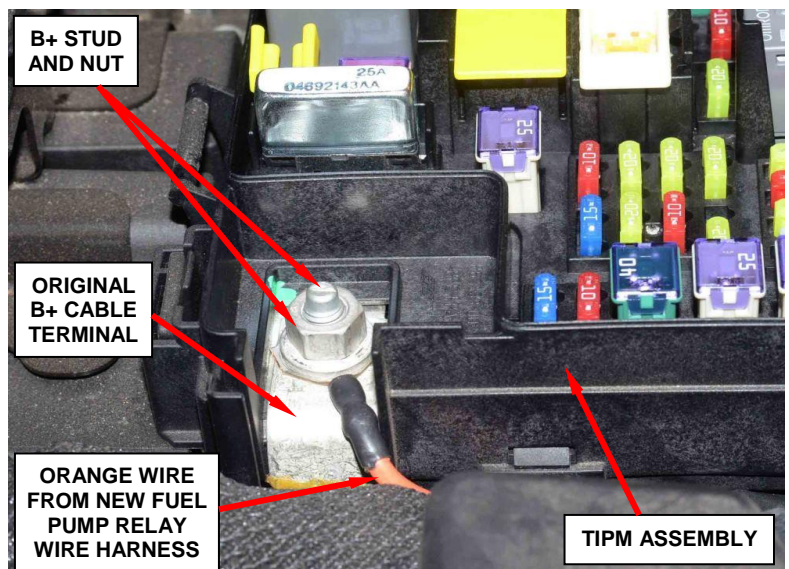

Figure 25 – B+ Electrical Connection
31. Connect the original B+ cable terminal to the TIPM B+ stud (Figure 25).
32. Connect the wire eyelet on the orange wire of the new fuel pump relay wire harness to the TIPM B+ stud (Figure 25).
33. Install the B+ cable terminal retaining nut. Tighten the nut to 14 ft. lbs. (19 N·m) (Figure 25).